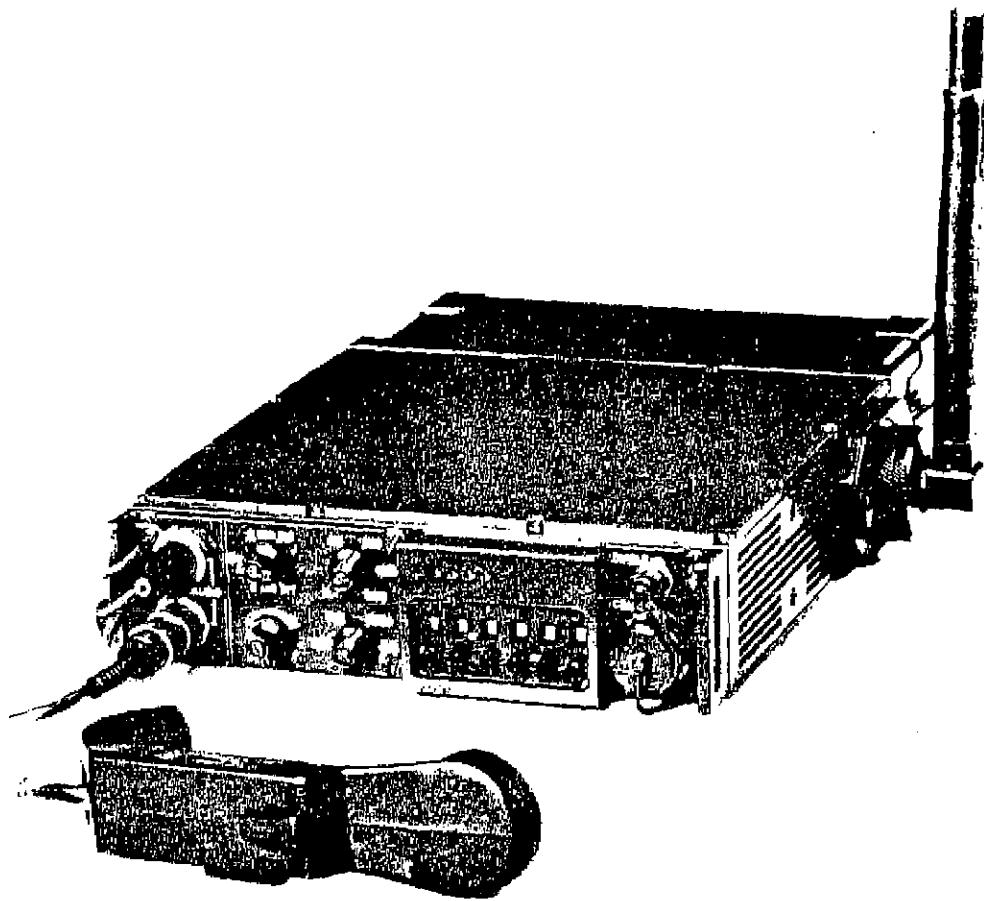

Figure 1-1. Radio Set PRC-174, basic configuration
a. Radio Set PRC-174 (Figure 1-1) provides stable two-way communication at short and medium range on any one of 280,000 frequencies spaced at 100-Hz intervals in the 2-MHz to 30-MHz high frequency (HF) band. The radio set is self-contained for operation as a man-pack, vehicular or fixed radio station.
b. The radio set provides voice, narrow-band data and narrow-band or wideband continuous wave telegraph (NCW, WCW) communications. Both single-side band (SSB) and amplitude modulation (AM) are available for voice and data operation. SSB is used for CW operation. In SSB either the upper or the lower sideband (USB, LSB) may be utilized. (See Table 1-1.)